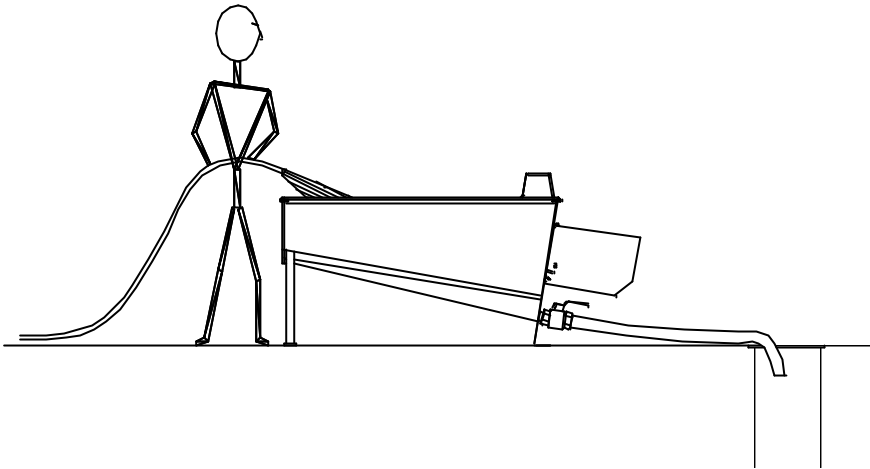

Figure 9: Filling of water
V. Pour water into the tray, see figure 9: Filling of water.